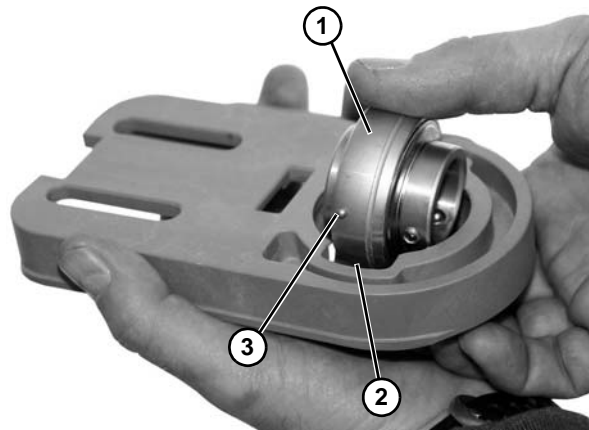

Figure 52
- Turn bearing (Figure 52, item 1) to align with slots (Figure 52, item 2) in bearing housing. Then remove bearing.
- Insert bearing (Figure 52, item 1) into housing slot: Locate anti-rotation nub (Figure 52, item 3) to align with slot (Figure 52, item 2), and twist bearing into housing.